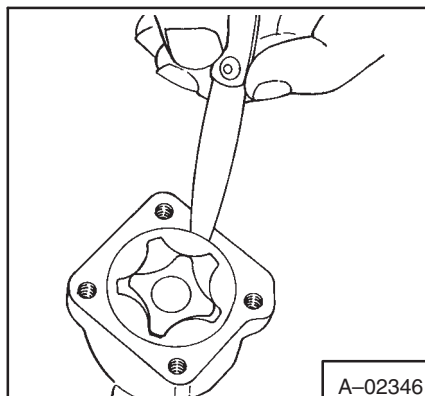

Fig. 7-65 Checking Outer Rotor Clearance
- (b) Check the clearance between the outer rotor and the pump body (Fig. 7-65).